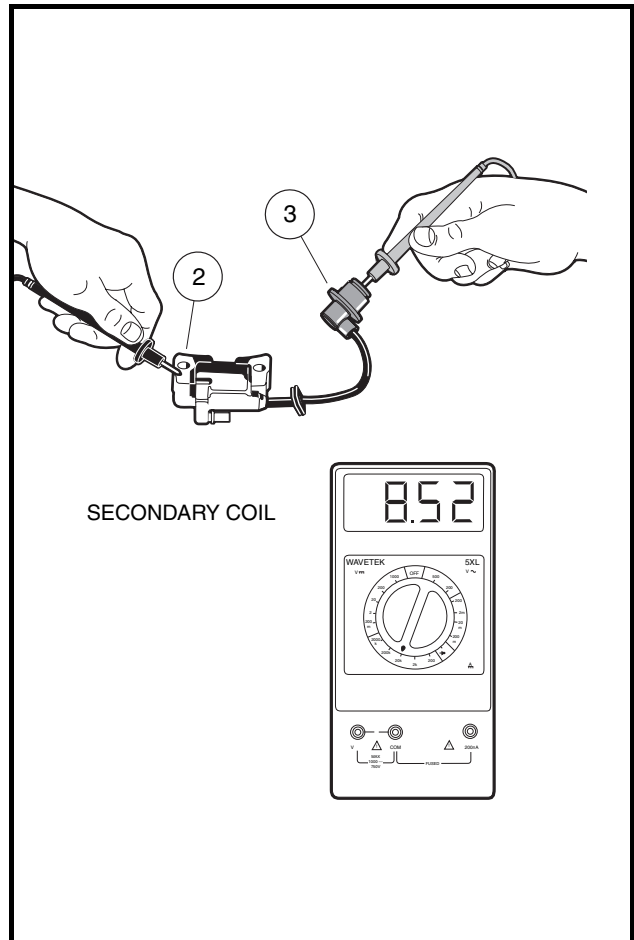

Figure 11-32 Secondary Coil and Cap Resistance – Bench Test
- 3.1. Place the red (+) probe of the meter into the end of the spark plug cap that normally connects to the spark plug (3) and place the black (–) probe on the core (2) (**Figure 11-32, Page 11-29**).